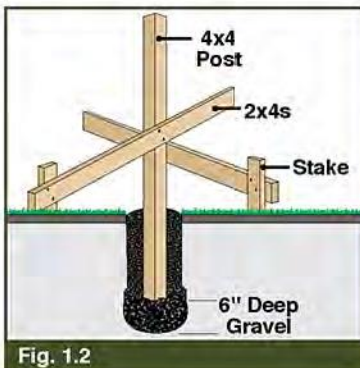

Fig. 1.2
1. Install the end and corner posts first. Brace the posts using 2x4s nailed to both the post and a stake pounded into the ground (see Fig. 1.2).